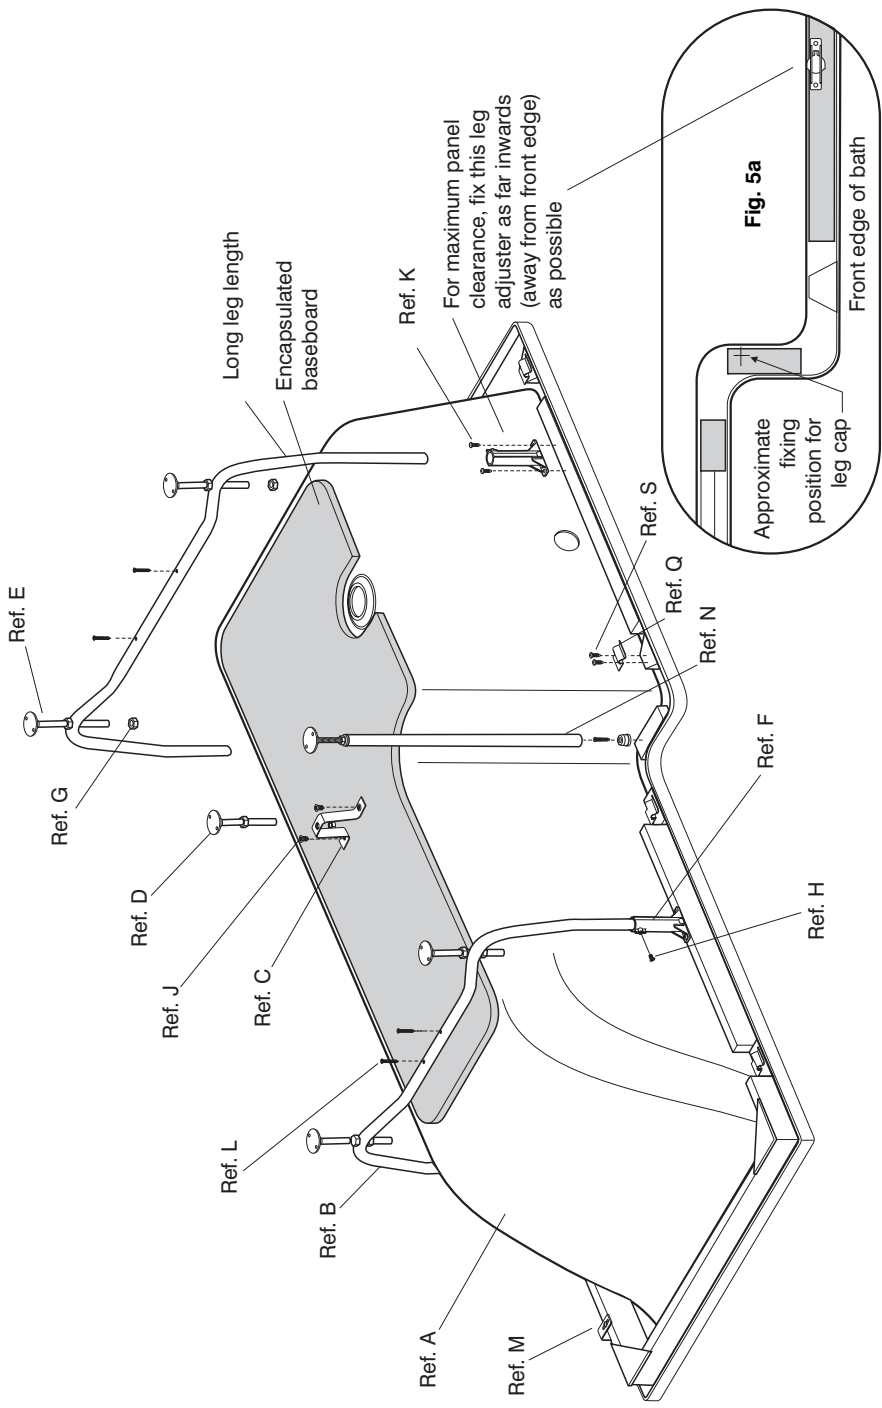

Fig. 5
Note: Careful positioning is required for the leg adjuster nearest the overflow hole. See Fig 5 & 5a.
4. Locate centre support bracket towards the centre of the baseboard, mark screw hole positions, pilot drill holes (\varnothing 2mm) in base board to a depth of 6mm maximum and secure bracket, use screws (Ref. J). Fit the single support leg black end cap onto relevant block (Fig. 5 & 5a) using the supplied screw.